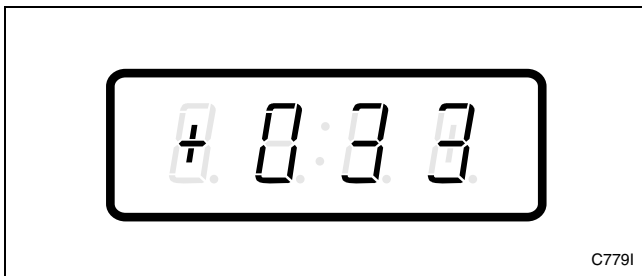

Figure 130
3. Press the DELICATES (+) or the COLD (-) keypad to scroll through the programmable options until “+033” appears in the VFD. Refer to *Figure 130*.